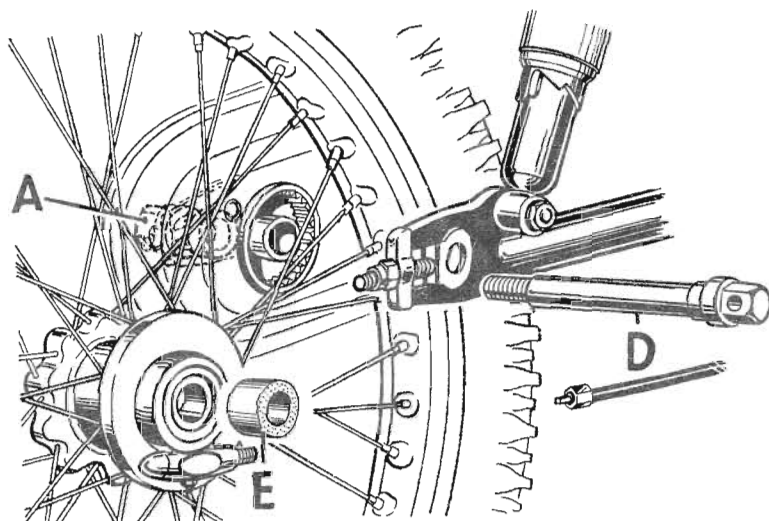

FIG. 15. Removing the rear wheel.
Disconnect the speedometer driving cable at the hub and unscrew the spindle (D) Fig. 15, from the right side, of the machine. The spindle has a normal right-hand thread and unscrews by turning in an anti-clockwise direction. It is also drilled to accept a tommy-bar to assist withdrawal.